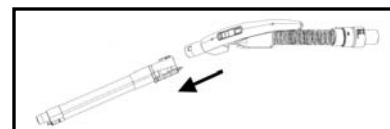

Fig. 7
- Holding the telescopic tube, insert the handle into the telescopic tube receptacle. Push the handle in. (Fig. 7)